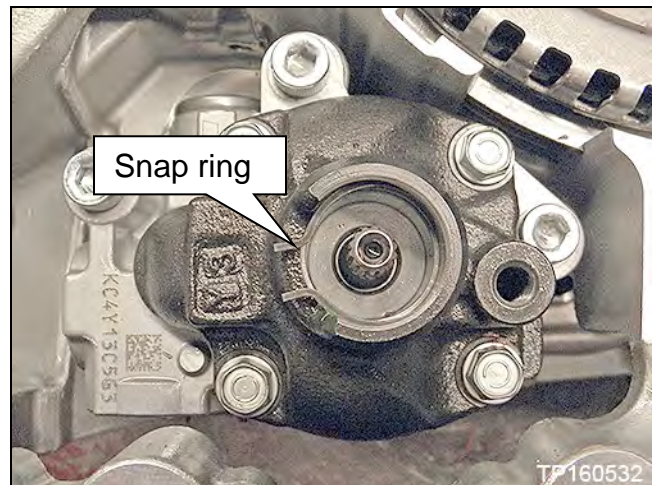

Figure 15B
- b. Oil pump snap ring (Figure 15B).